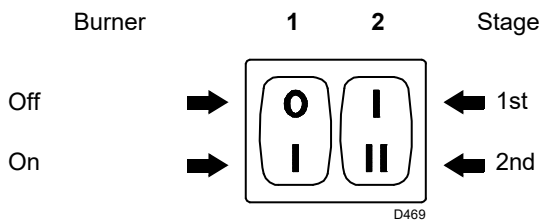
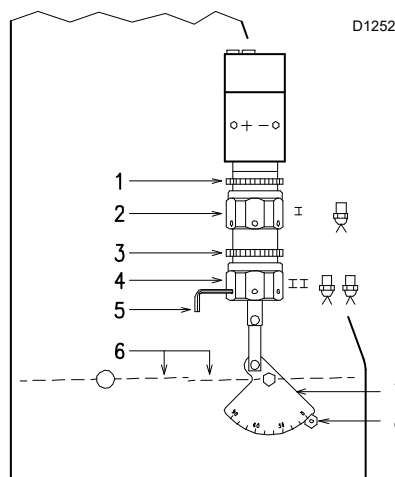

Fig. 18
Fig. 19
- Start the burner by closing the control devices and with switch 1)(Fig. 18 pag. 17) in the "ON" position. The pump must rotate in the direction of the arrow marked on the cover.
- The pump can be considered to be primed when the light oil starts coming out of the screw 3). Stop the burner: switch 1)(Fig. 18 pag. 17) set to "OFF" and tighten the screw 3).
Set switch 1)(Fig. 18) to "ON".
Keep the burner operating at 1st stage by setting the switch 2)(Fig. 18) to the 1st stage position. Opening of the air gate valves 6)(Fig. 19) must be adjusted in proportion to the selected nozzle: the index 8)(Fig. 19) must be aligned with the notch indicated on the graduated sector 7)(Fig. 19). This adjustment is achieved by turning the hex element 2)(Fig. 19):
Set switch 2)(Fig. 18 pag. 17) to the 2nd stage position and adjust the air gate valve 6)(Fig. 19) by turning the hex element 4)(Fig. 19), after having loosened the ring nut 3)(Fig. 19).
in order to facilitate adjustment of hex elements 2) and 4)(Fig. 19), use a 3 mm Allen key 5)(Fig. 19).